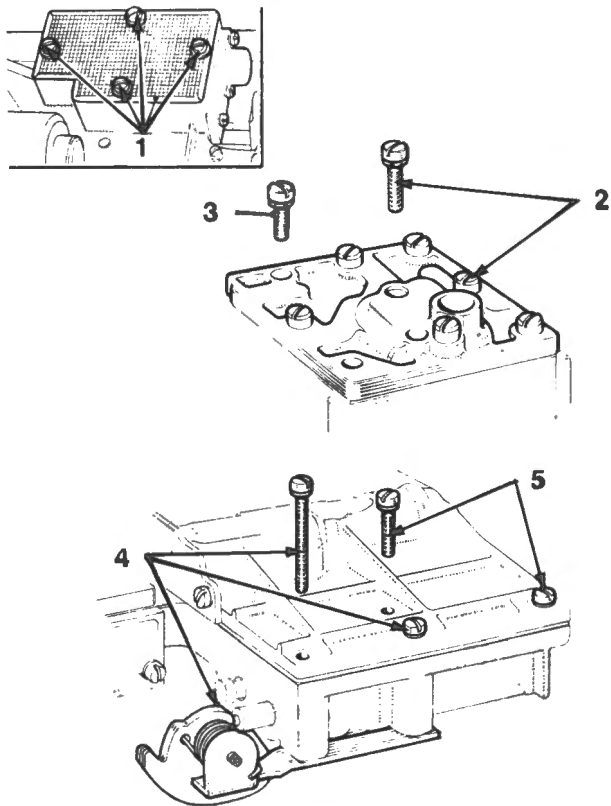

Fig. M-47
- 1 Remove the pump oil strainer. Sequence Fig. M-47. Inset oil tube plate. Fig. M-47.
- UPPER VALVE BODY ASSEMBLY, SEQUENCE FIG. M-47**